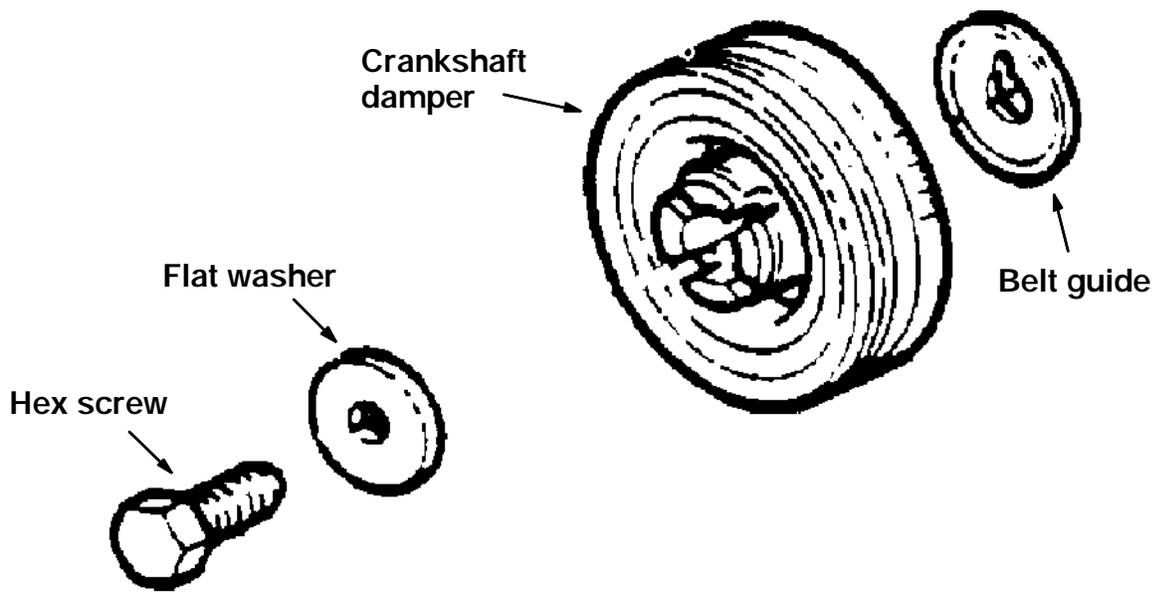

FIG. 1 - Crankshaft Damper
(Refer to FIG. 1, 2, 3 and 4)
6. Remove the crankshaft damper pulley. (Refer to Fig. 1)
7. Pull the belt guide off the end of the crankshaft where the damper was removed. (Refer to Fig. 1)
8. Reinstall the belt guide and damper to the crankshaft. (Refer to Fig. 1)